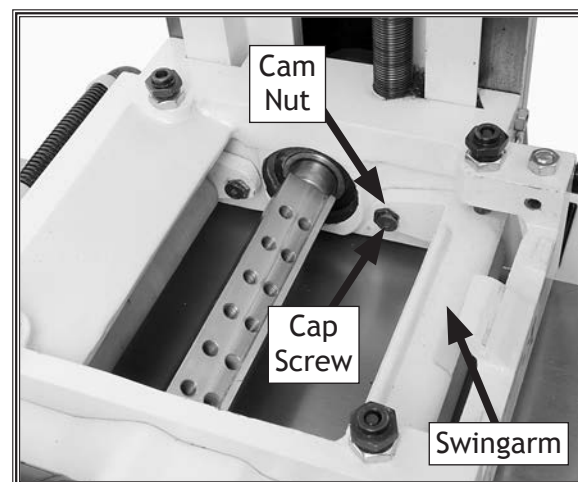

Figure 58. Feed roller components.
8. Loosen the cap screw shown in **Figure 58**, then rotate the cam nut until the swingarm lowers or raises, so the roller just touches the block without compressing the roller springs.